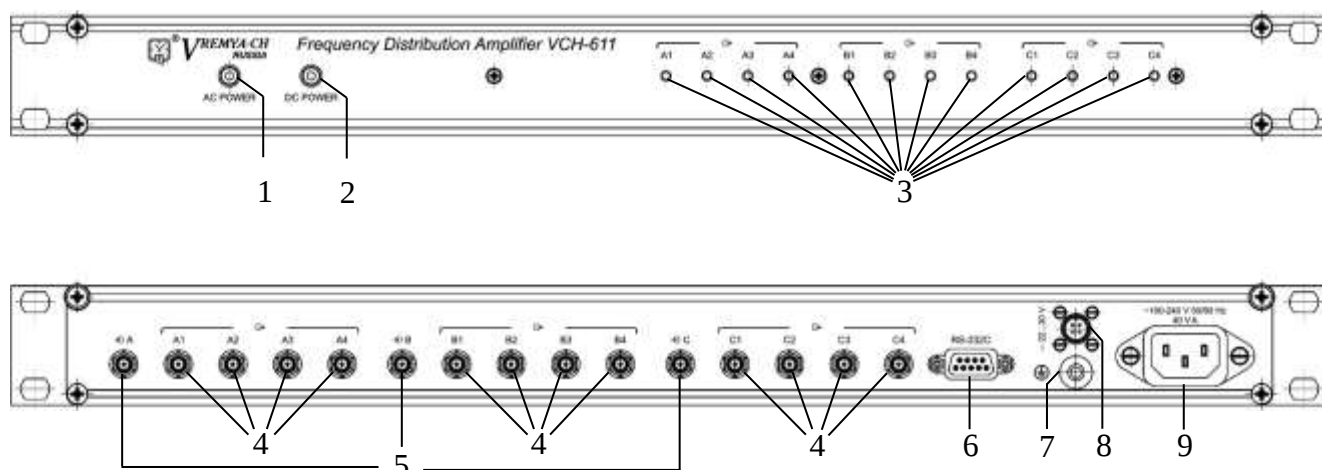

Figure 3
4.2.1 Control and connection system and their functions are shown in Table 5. Their location is shown in Figure 3.